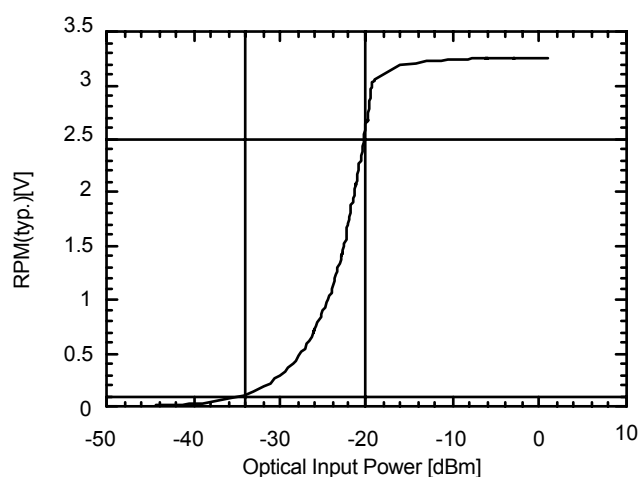

Figure 5. Input Power versus the Optical Input Monitor Voltage (typ.)
- The relationship between the Optical Input Power and the Optical Input Monitor Voltage is shown in Figure 5.